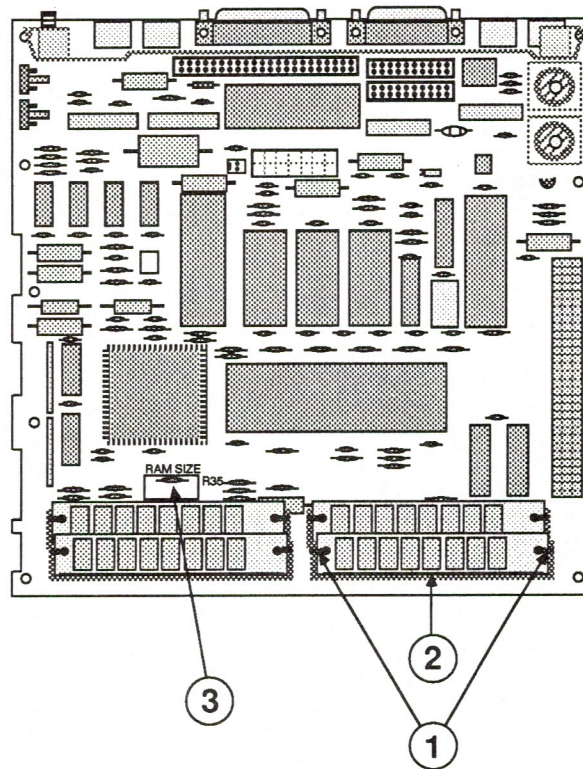

FIGURE 18
4. To remove a SIMM, push outward on the plastic holders (Figure 18, #1) at the ends of the module until you hear a click. Then lift out the module.
1. With the contacts (Figure 18, #2) on the SIMM pointing down, set the module into the connector at an angle (bottom forward).
Locate the R35 resistor (Figure 18, #3) in the area labeled RAM SIZE. Using small diagonal cutters, clip the resistor off the board and discard it. (You do not need to desolder the leads from the board.)